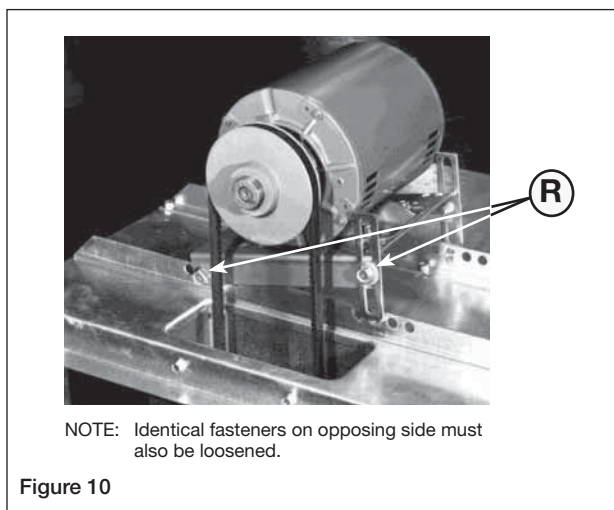
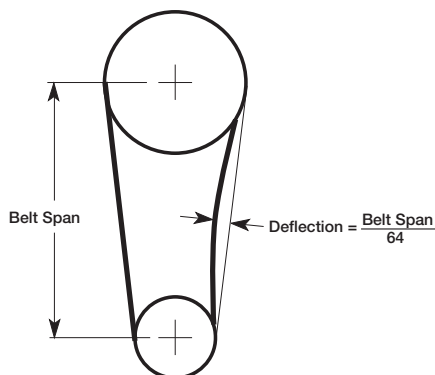

Figure 10
Figure 11
5. **For BSQ-M Fans:** Belt tension can be adjusted by loosening four fasteners marked “R” on the drive frame (see Figure 10). The motor plate slides on the slotted adjusting arms. Belt tension should be adjusted to allow 1/64 inch of deflection per inch of belt span. For example, a 15 inch belt span should have 15/64 inch (or about 1/4 inch) of deflection with moderate thumb pressure at mid-point between pulleys (see Figure 11). Over-tightening will cause excessive bearing wear and noise. Too little tension will cause slippage at start-up and uneven wear.
Belts too tight or too loose	Adjust tension, see Figure 11.